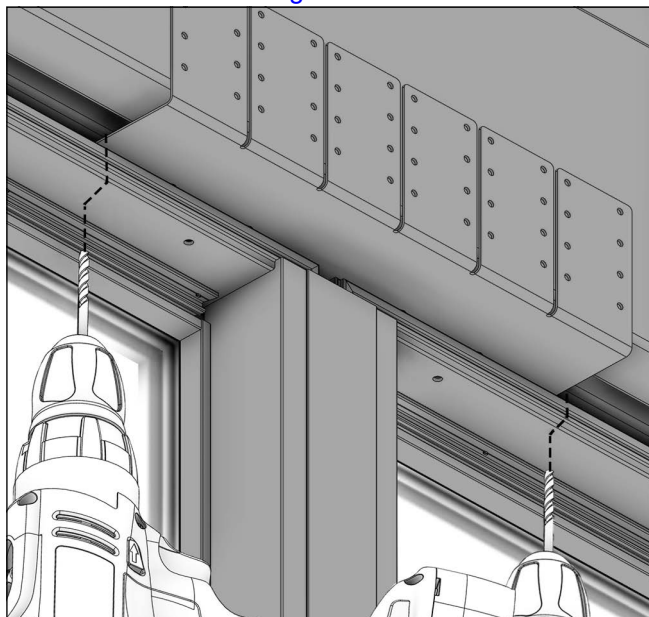

Figure 97 Direct Glaze
4. For Direct Glaze product, measure 1/2" off the interior face of the frame. All holes regardless of unit type will align with the existing through jamb holes. Drill the marked locations, drill through the frame with a 3/16" drill bit. Once all holes are drilled, fasten the frame to the RO with the provided #8 x 3" screws using a T20 star bit. Additional shimming may be required. DO NOT OVERTIGHTEN. See Figure 97